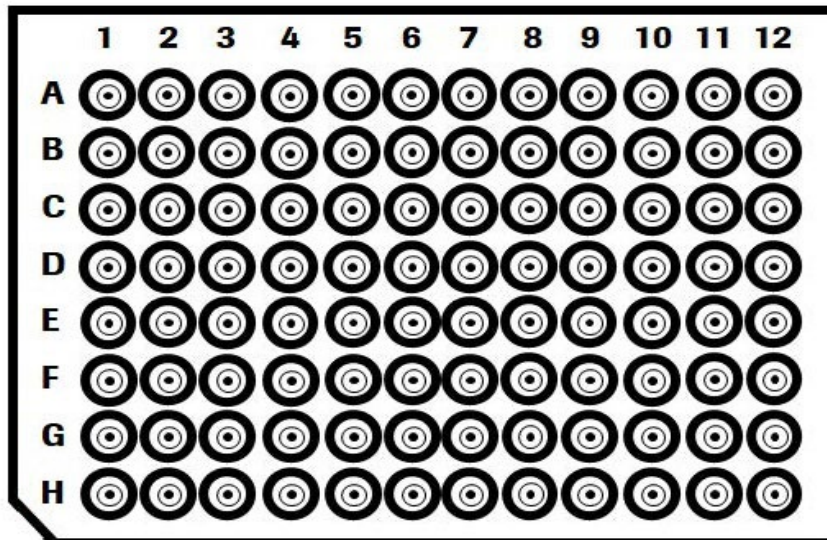

Figure 2: KAPA UDI Primer Mixes plate layout.
3. Before removing the foil cover, ensure the plate is in the correct orientation before proceeding. In order to have well position A1 on the top left corner, the notched corner must be facing the user on the bottom left, as shown in Figure 2.